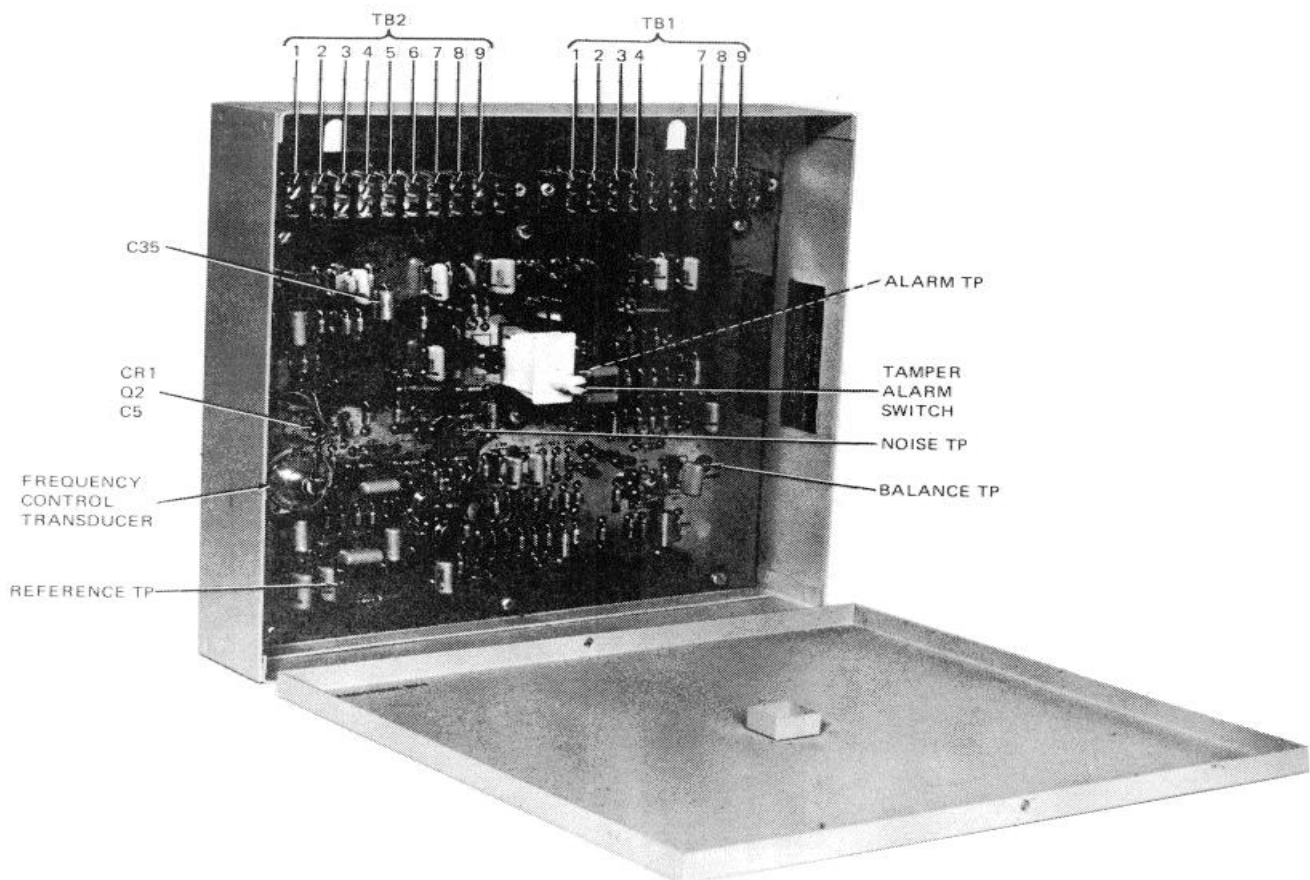

Figure 5-1. Processor, With Troubleshooting Test Points
- (6) Inspect all metal surfaces intended to be painted for condition of finish and legibility of panel lettering.
- f. Refer to figures 5-1 and 5-2 for all test points found in the troubleshooting table. Step-by-step troubleshooting procedures, including troubles, probable cause, and corrective action, are listed in table 5-1.